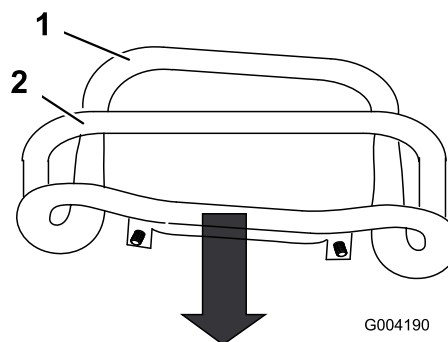

Figure 54
3. Pull straight back on the traction control so the front of the control contacts the reference bar (Figure 54).